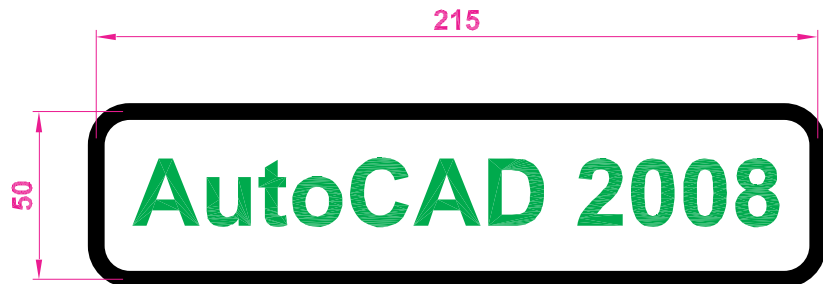

Fig. 6.46 Exercise 5
5. Using the text style **Arial** of height **20** and enclosing the wording within a pline rectangle of Width = **5** and Fillet = **10**, construct Fig. 6.46.